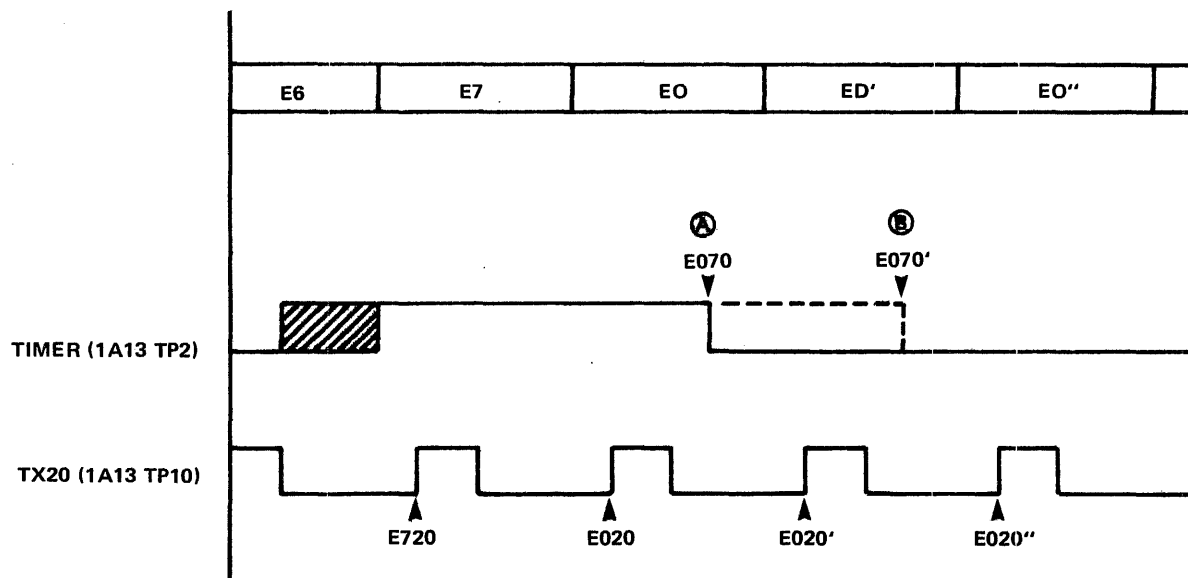

Figure 6-7. Timer Delay Waveforms
2. Sync the oscilloscope on 1A13 TP2, set the display mode selector to CHOPPED, and set up for simultaneous display of the TIMER waveform at 1A13 TP2 and the TX20 waveform at 1A13 TP10. (See Figure 6-7.) Leading edge of the TIMER waveform will start somewhere between E650 and E700 (not critical).
3. If the System has only the non-ECC portion of the Register Option (RO) present (chassis 1), adjust pot R14 on 1A13 so that the trailing edge of the TIMER pulse falls exactly midway between the leading edges of the second and third TX20 pulses from the leading edge of the TIMER pulse; i.e., at E070 (point A on Figure 6-7). This produces a TIMER pulse of about 200 nanoseconds in width, which generates E0' on module 1A15.
4. If the System has both the non-ECC portion (chassis 1) and ECC portion (chassis 2) of the RO present, adjust pot R14 on 1A13 so that the trailing edge of the TIMER pulse falls exactly midway between the leading edges of the third and fourth TX20 pulses from the leading edge of the TIMER pulse; i.e., at E070' (point B on Figure 6-7). This produces a TIMER pulse of about 300 nanoseconds in width, which generates both E0' and E0'' on module 1A15.